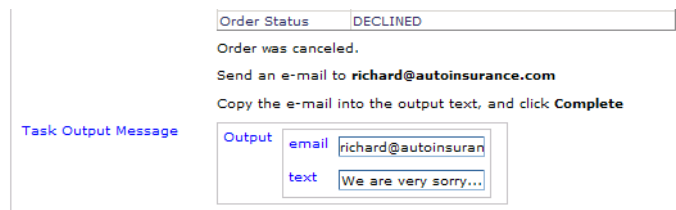

Figure 9-49 BPC Explorer: Custom JSP for order cancellation
- ▶ If you decline an order you can work with the custom JSP for order cancellation. The top part of the display is the same as above, the bottom part shows the standard JSP (Figure 9-49).